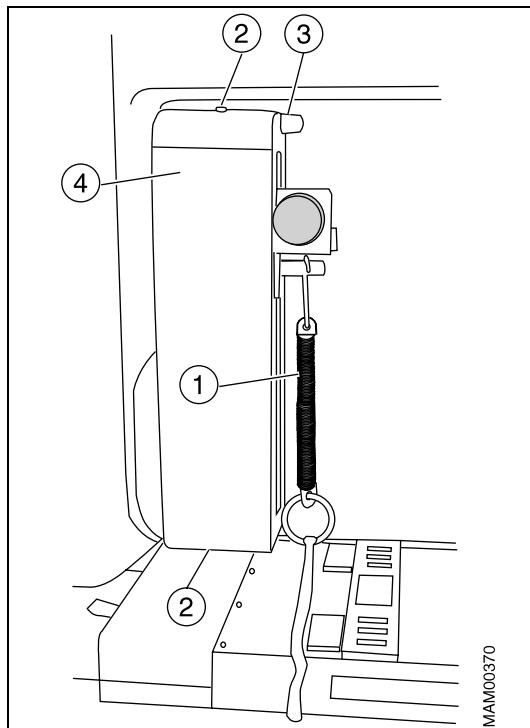

Fig. 2: Compression unit with covers
- Attach the spring scale as shown in (1/Fig. 2 / p. 21).